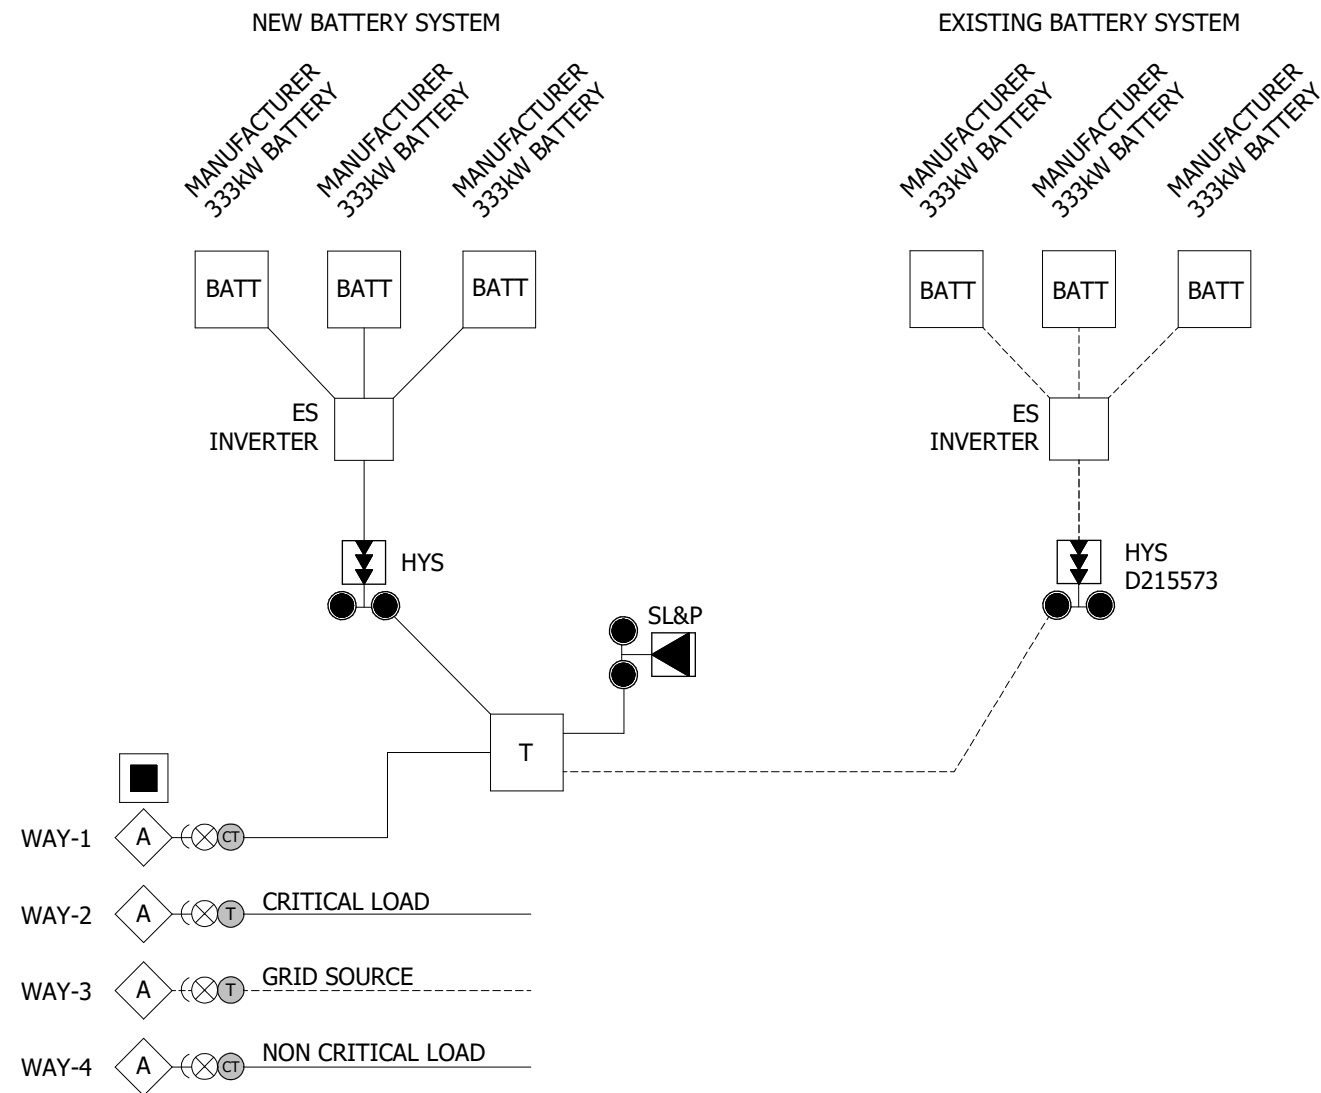

FIGURE 1
- (C) GENERAL AND MULTI-BATTERY (REQUIRES HSCC SCADA TRAYER - S704738), SEE FIGURE 1: